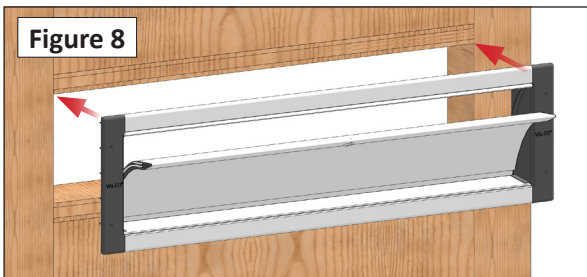

Figure 8
- Insert the assembled door and frame from the inside of the building into the rough opening (previously prepared in steps 1 & 2) as shown in Figure 8.